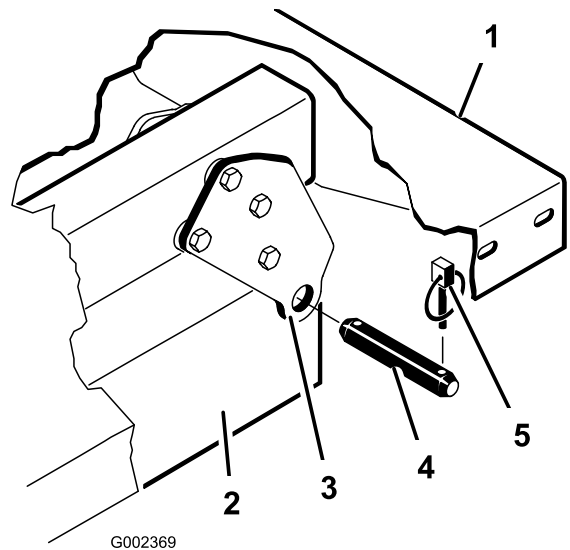

Figure 4
5. Remove the clevis pins securing the cylinder rod ends to the bed mounting plates by pushing the pins towards the inside (Figure 4).
6. Remove the lynch pins and clevis pins securing the pivot brackets to the frame channels (Figure 4).